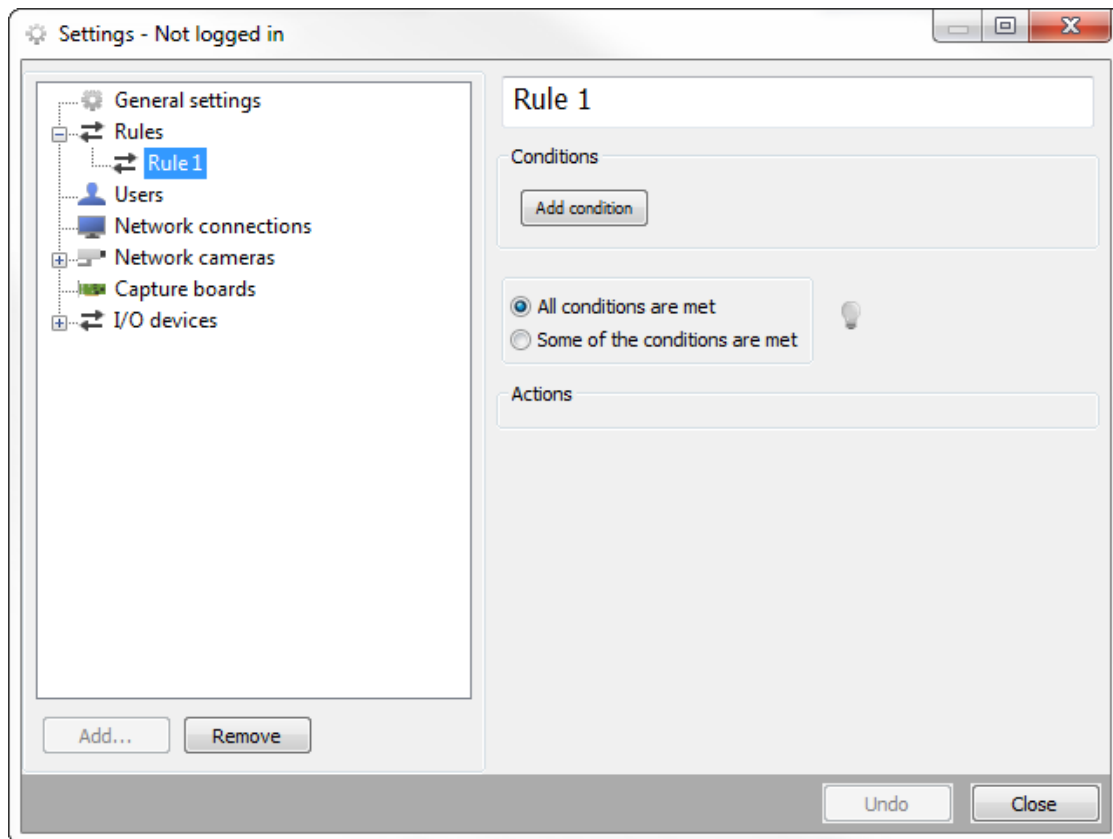

Figure 5.11: Edit rule.
- Modify the rule (Figure 5.11):